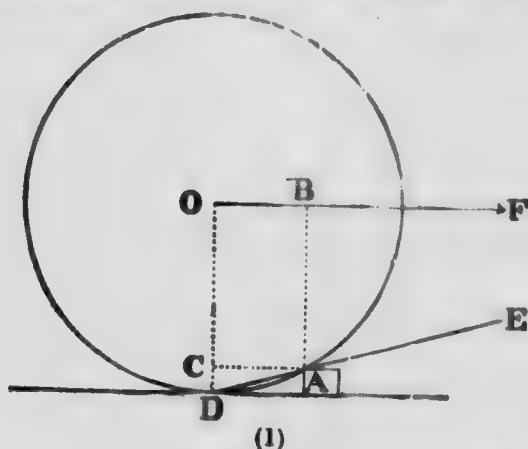

Fig. 18.
*Wheels.*—What is the advantage of having wheels on a wagon? We have all drawn weights on these small express wagons that girls and boys play with, and we know that it is easier to draw the weight when it is on the wagon than if we tried to drag it along the ground. Why is it easier? We know that it is because of the wheels; but how do wheels make it easier? Let us proceed to answer this question, but first let us settle why it is hard to drag a weight along the ground or pavement or side-walk. You will answer that it is because of the friction between the weight and the other surfaces. Friction is due to small projections in the two surfaces in contact; these projections strike against each other and retard the motion. If the weight and pavement were absolutely smooth it would take no force at all to keep the weight moving on the pavement, if it were once started, and if the pavement were perfectly level. How then does the wheel overcome the friction of the road? If you will examine Fig. 18 you will see that the wheel overcomes the friction of the road by lifting the weight over the projections.
*Size of Wheels.*—Is it better to use large wheels or small wheels on a wagon? We can answer this question by examining (1) Fig. 18, and (2) Fig. 18a. Wheel (1) is twice the size of wheel (2), and the obstruction at A is of the same size in each case. Examine the weight arm AC
Fig. 18 a.
What effect does this have on the force necessary to pull the load along? We know that it is harder to pull a load when the wheels sink into the road bed. But why is it? We can answer this by again looking at (1) and (2) Figs. 18 and 18 a. When the wheels sink into the road the load is really being pulled up-hill all the time. If we think of the wheels sinking to the depth represented by obstruction A in (1) and (2), the line DE in each case represents the real road bed and we see that the grade is steeper in (2) than in (1); therefore the pull would be greater for the small wheel than for the large wheel if they sank to the same depth. But we found above that the small wheel would sink deeper than the large wheel, therefore the pull would be greater still for the small wheel than for the large one. This then is a second reason why it is better to use large wheels than small wheels.
On ordinary roads, however, where the wheels sink in to a certain extent, the wagon is really going up-hill all the time, and it has been found by experiment that the pull is least when the traces are parallel to the grade up which the wagon is going. See (3) Fig. 18 a. DE is the grade and OF the slant of the trace. We can see why the
In the ordinary wagon which is used for all purposes, the size of the front wheels is determined as follows : When the average height of the horses used is known, and the best slant of the traces for the ordinary condition of the road, then the axle of the front wheel may be as high as the lower end of the traces. A study of the force arm and weight arm in Figs. 18 and 18a shows us that there is no advantage in having the axle higher than this.